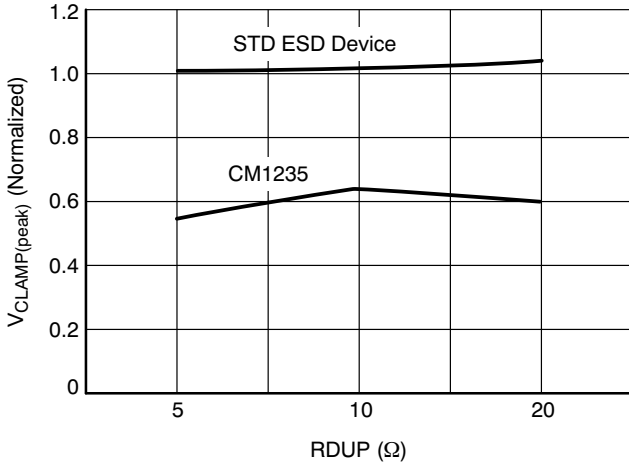
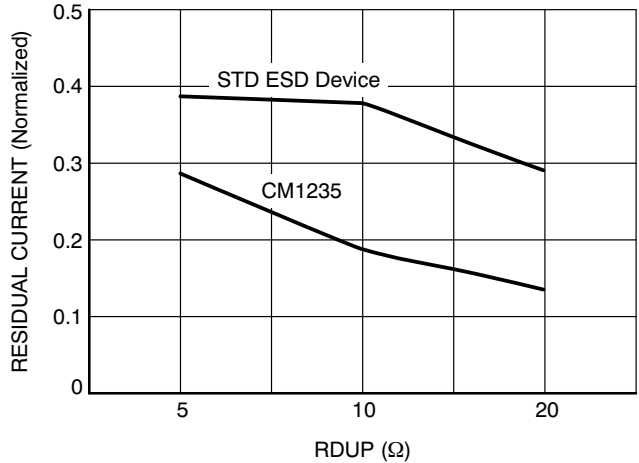
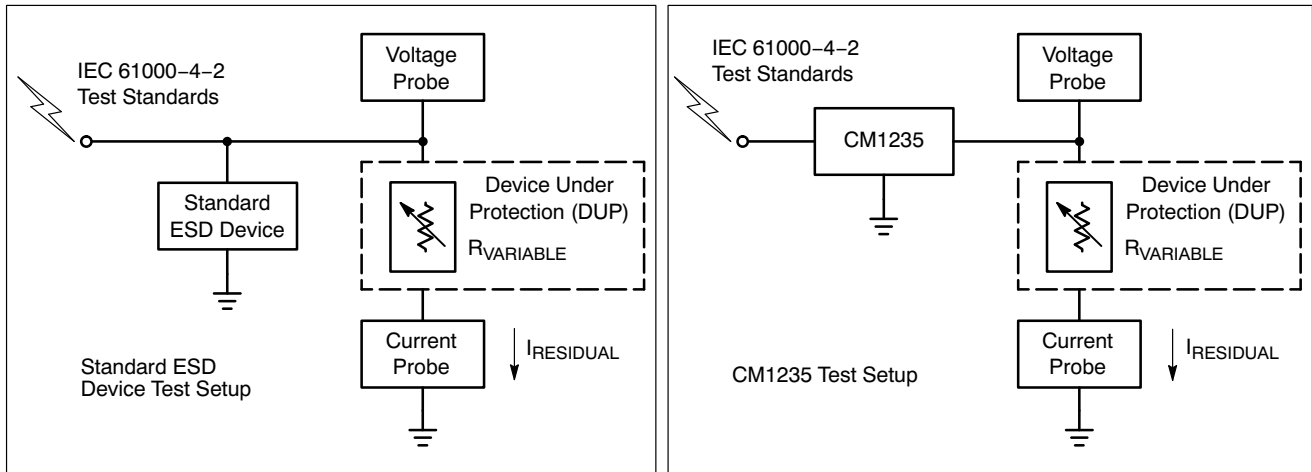

Figure 5. Normalized VPeak (8 KV IEC-61000 4-2 ESD Contract Strike) vs. Loading (RDUP)*
Figure 6. Normalized Residual Current into DUP vs. RDUP*
Figure 7. Test Setups: Standard Device (Left) and CM1235 (Right)
1. Impedance values for deviation from continuous 100 Ω uncompensated differential microstrip, with typical layout as measured. See Figure 7.
Figure 5 shows that the CM1235 (*PicoGuardXS* ESD protector) lowers the peak voltage and clamping voltage by 45% across a wide range of loading conditions in comparison to a standard ESD protection device. Figure 6 also indicates that the DUP/ASIC protected by the CM1235 dissipates less energy than a standard ESD protection device. This data was derived using the test setups shown in Figure 7.